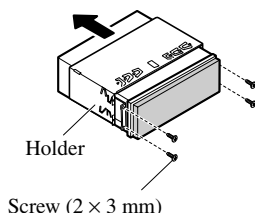

Fig. 13
- **Remove the holder. (Fig. 13)**